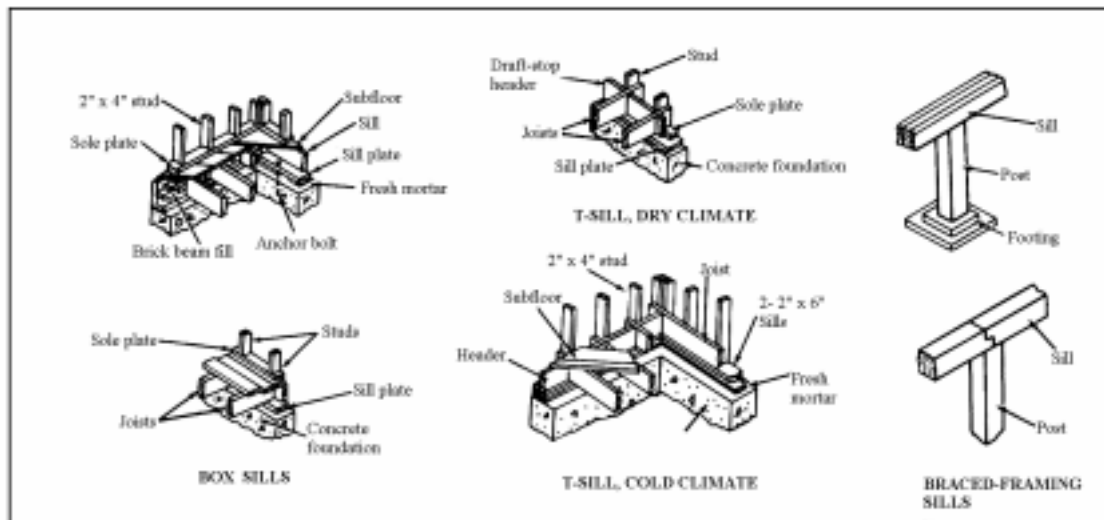

Figure 051-236-1141-1
1. Identify the following wood sill types and their construction (Figure 051-236-1141-1):